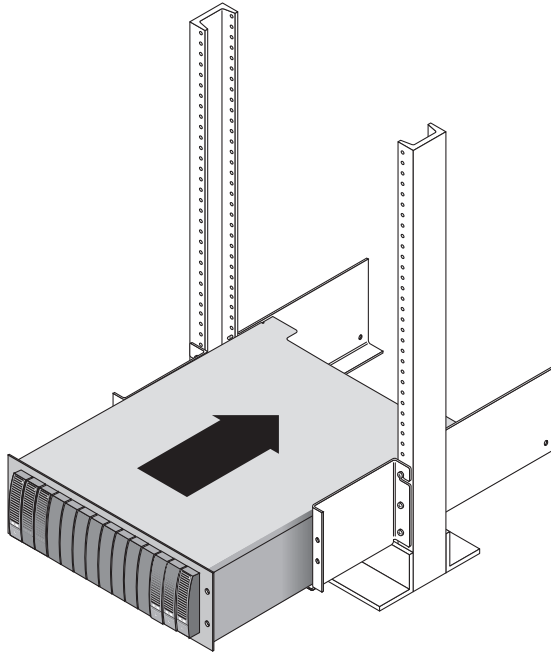

FIGURE 2-28 Sliding the Tray Into the Rack
3. Carefully slide the tray onto the mounting rails until the front bezel of the tray contacts the rail flange on each side (FIGURE 2-28).